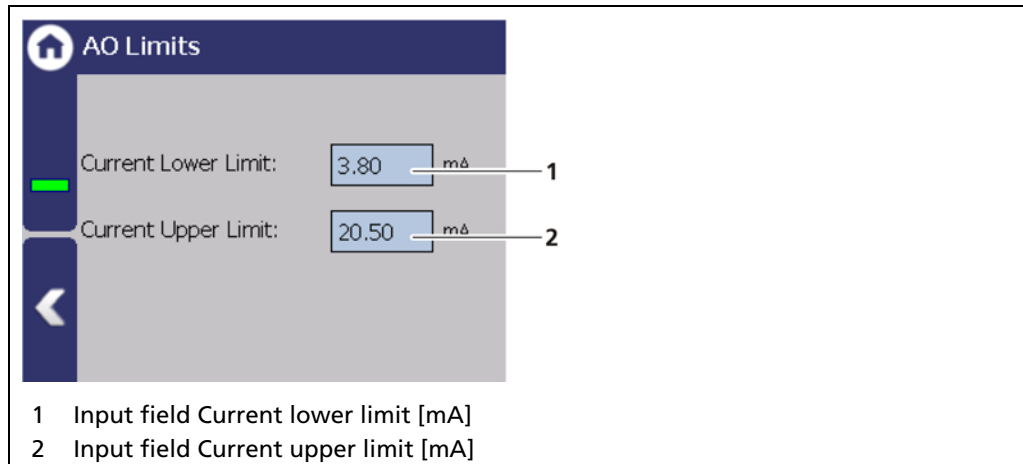

Fig. 99 Analog Output (AO Limit)
By clicking on the input fields (Fig. 99, item 1, item 2), the values [mA] for the lower and upper current limit can be set. In addition to the default value of 3.8 mA, the lower current limit can be set to 0 mA in order to switch the current output from 4 ... 20 mA to 0 ... 20 mA.